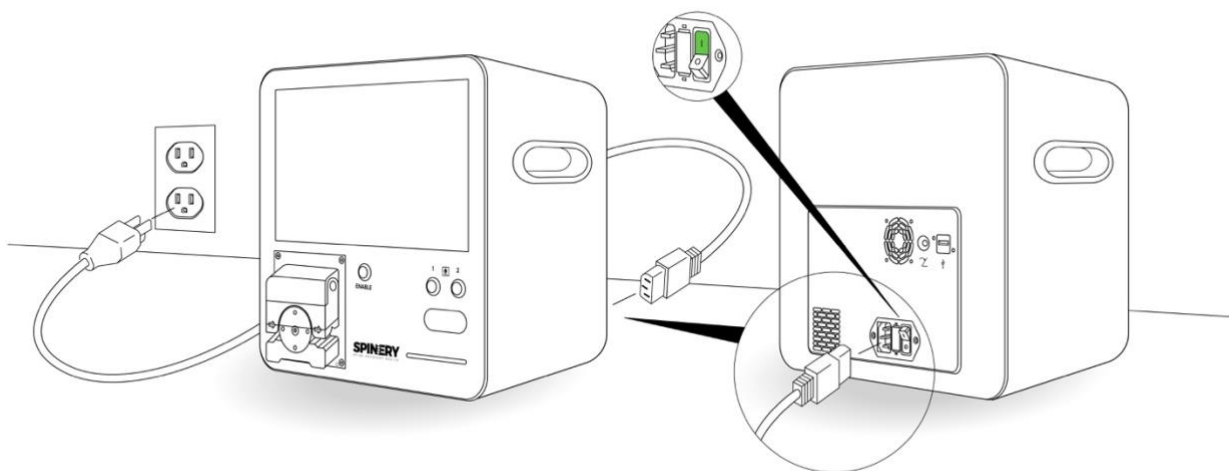

Figure 11 – Main Power Connection
3. Connect the power cord to the generator power outlet and to a hospital-grade power outlet with protective grounding (Figure 11).